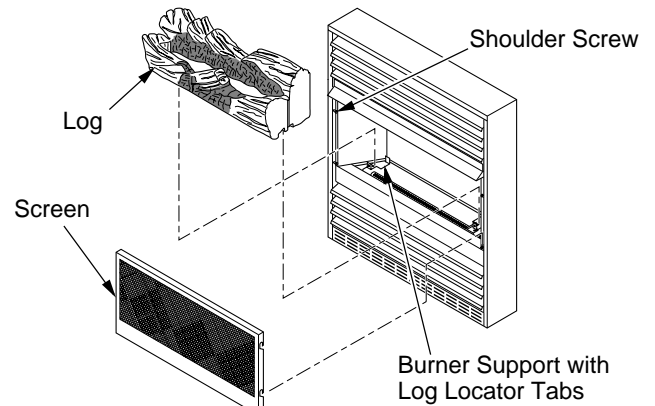

Figure 44 - Installing Log and Screen
1. Remove log packaging material and discard packaging. Gently place log on burner support (see Figure 44). The log should fit flat against top of burner support and log locator tabs fit into the slots under the log. Do not allow log to contact flame. If flame contacts log, soot will be created.